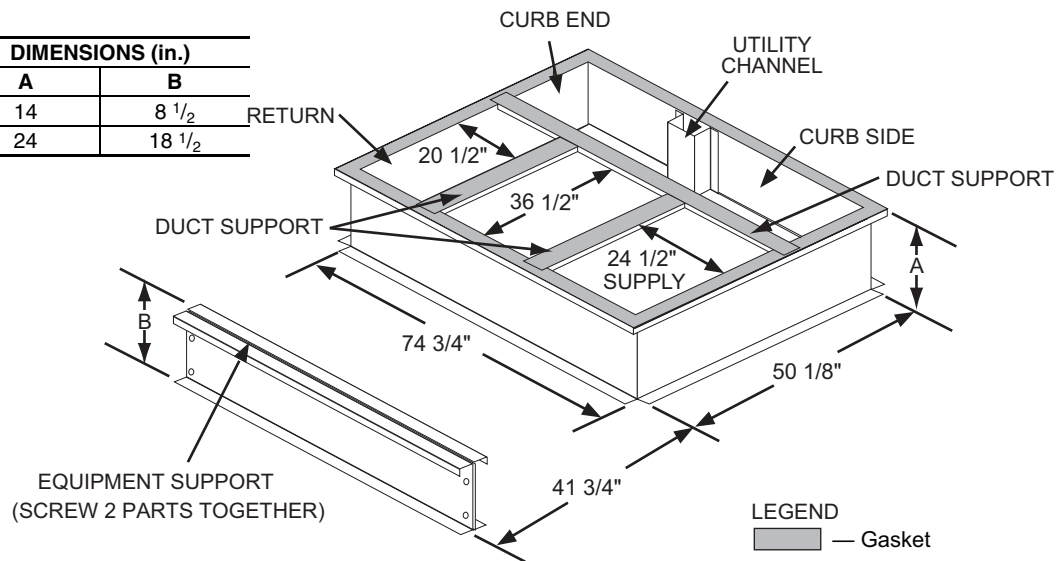

Fig. 1 — Roof Curb Details (CRRFCURB053A01 and CRRFCURB054A01)
2. Cut hole in roof for duct openings. See Fig. 1 and 2 for dimensions. It is not necessary to cut out the entire area of the roof curb. If utility connections are to be made through the curb, cut out the access space near the location of the utility plate connector.
5. Screw the utility channel into the curb side as shown in Fig. 1 and 2.
7. Install the duct supports as shown in Fig. 1 and 2.
11. Place gasketing around outer perimeter of curb and around duct openings, as shown in Fig. 1, 2, and 5.
10. Locate equipment support per Fig. 1 or 2 and attach to the roof structure by welding or screwing in place.